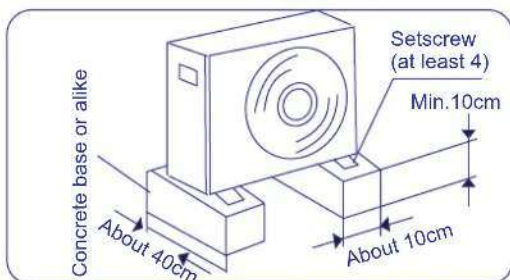

Fig.8.2
- Make a strong base(10X40cm2 board made of concrete or alike). The appliance should be placed not less than 10 cm high to avoid being wet or corroded. Otherwise, it may cause damage to the appliance or reduce its life time. (Figure 8.2)